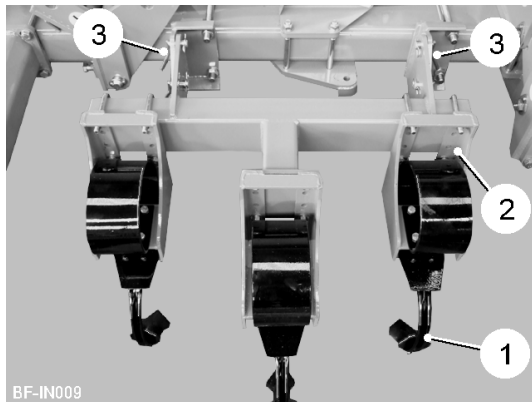

Fig 9
Optional bed loosening tines can be fitted to promote a better bed structure. The tines (item 1, fig 9) are mounted between the ridging bodies and on optional outriggers if fitted. The working depth of the tines is adjusted by repositioning the tine bracket (item 2, fig 9) to align with a different set of holes.
2. Remove the two locking pins (item 3, fig 9).
4. Reinsert the locking pins (item 3, fig 9) and secure.
On 4-bodied machines, additional depth adjustment can be achieved by moving the mounting beam pivot bolts and locking pins (item 3, fig 9) to align with a different set of holes in the mounting bracket. The pivot bolt and locking pin locations will need to be swapped so that the outer units can still fold up for transport.